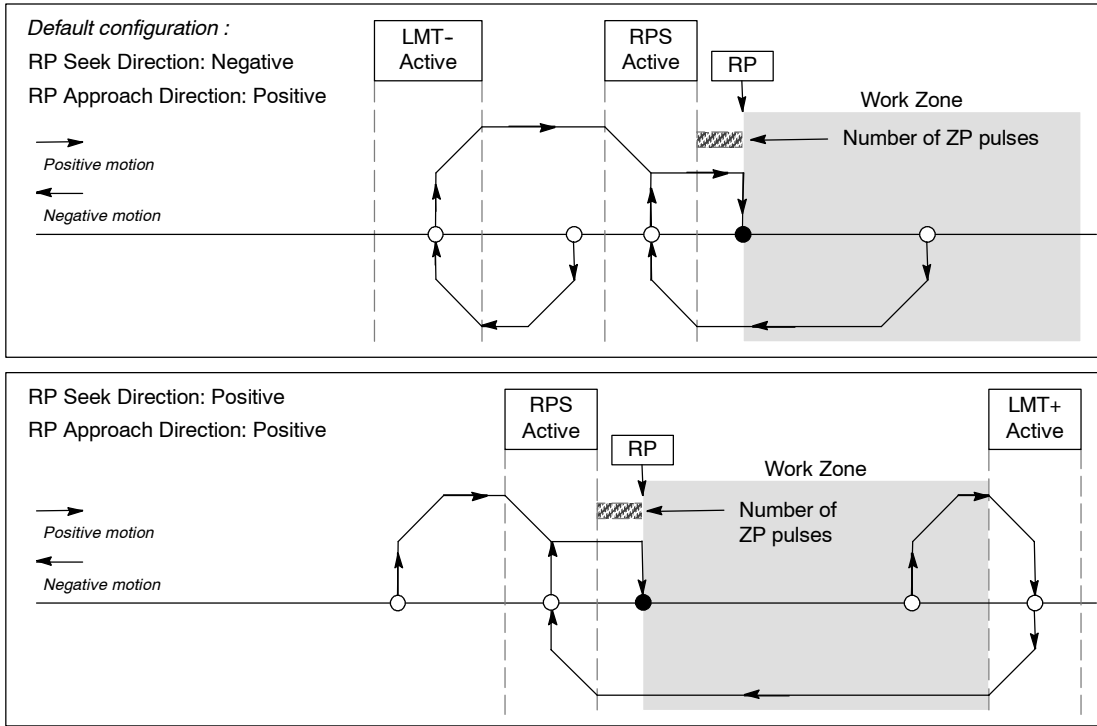

Figure 9-16 RP Seek: Mode 3
- Figure 9-16 shows two of the options for RP seek mode 3. This mode locates the RP a specified number of zero pulses (ZP) outside the active region of the RPS input.